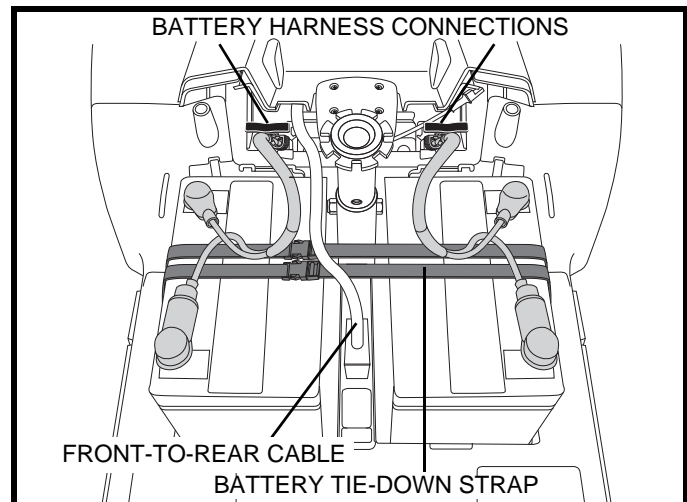

Figure 20. Harness Connections
5. Unplug both battery harnesses by pulling each harness out of its mating plug. **See figure 20.**
8. Connect both battery harnesses. **See figure 20.**